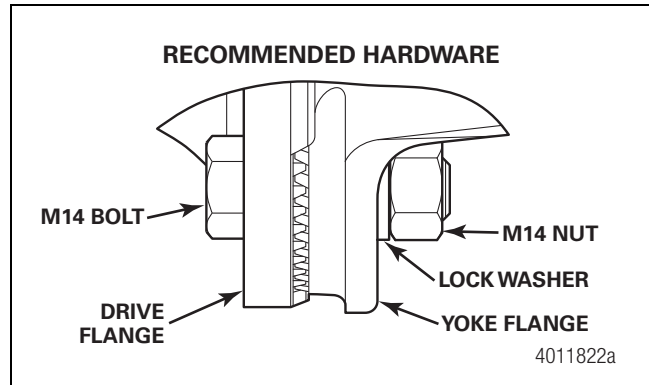
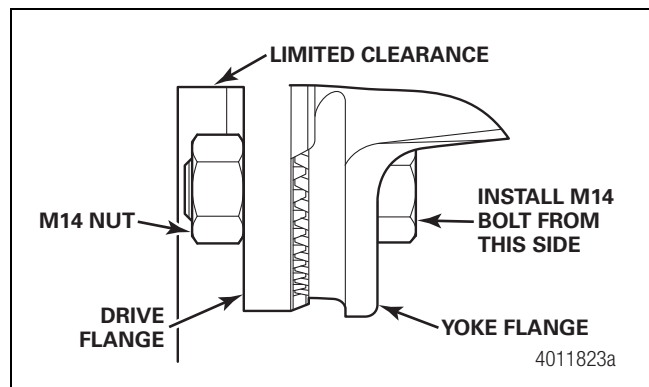

Figure 4.80
Figure 4.81
5. Install the fasteners and washers to secure the coupling joint flange to the vehicle rear drive flange. Figure 4.80. Due to tight clearances, some applications may require the bolt to be inserted from the yoke flange side without a washer and secured with a nut on the drive flange side. Figure 4.81. Tighten the fasteners to 133-163 lb-ft (180-220 N•m).